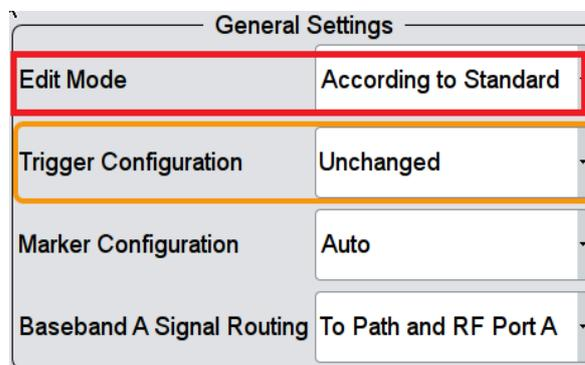

Fig. 3-8: Select “According to Standard” to generate uplink signal according to 3GPP standard.
- Select **According to Standard** in the **Edit Mode** under the “General Settings” section (Fig. 3-8)